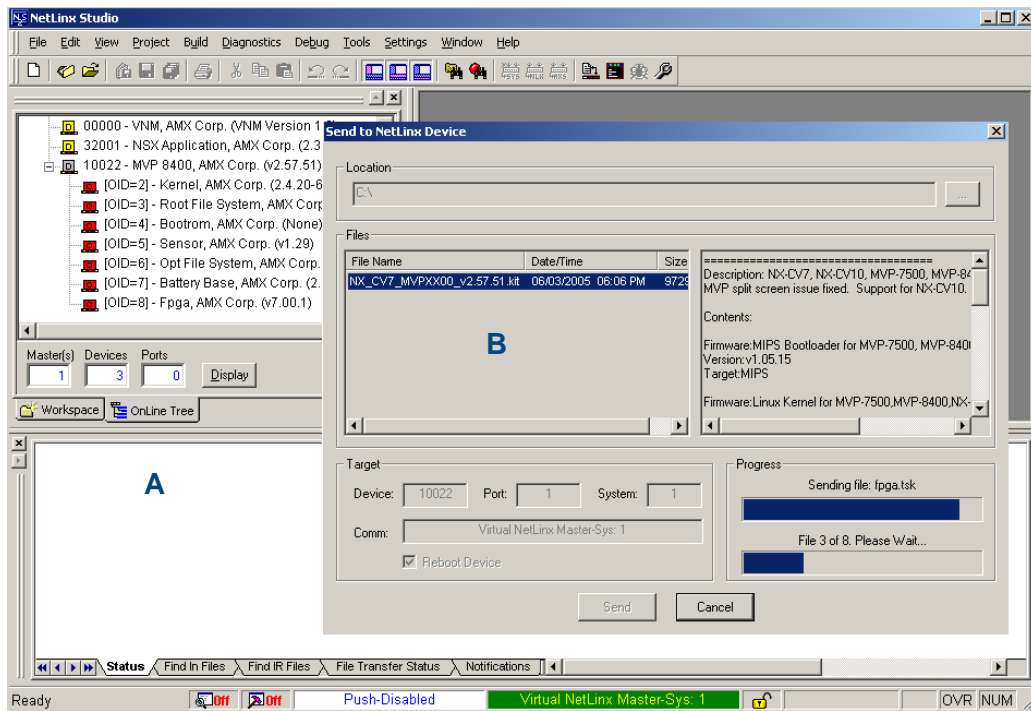

FIG. 69 Using USB for a Virtual Master transfer
7. Select **Tools** > **Firmware Transfers** > **Send to NetLinx Device** from the main menu to open the *Send to NetLinx Device* dialog (B in FIG. 69). Verify that the panel's System and Device number values match those values listed within the System folder in the **OnLine Tree** tab of the Workspace window (A in FIG. 69).
11. Click **Send** to begin the transfer. The file transfer progress is indicated on the bottom-right of the dialog (**B** in FIG. 69).